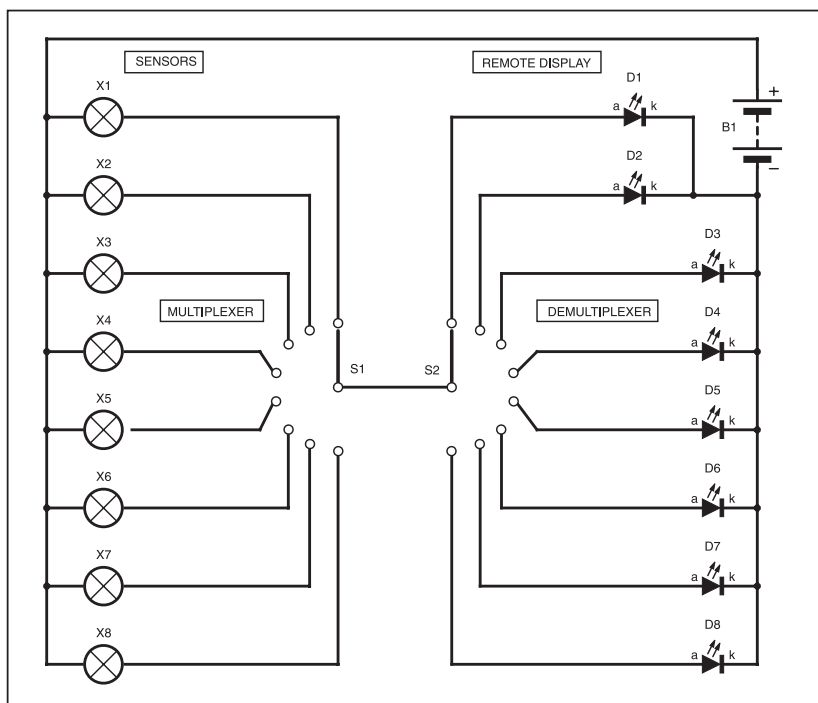

Fig. 5.4. Using two rotary switches to multiplex and demultiplex eight sensors and eight l.e.d.s.
Now consider the system in Fig. 5.4. Notice how the number of wires between the well and the house has been reduced to just two (though we will see later that in a practical system four more are needed).
In Fig. 5.4 we use two rotary switches, S1 which *multiplexes* the information onto one wire, and S2 which *demultiplexes* it from one wire to eight. If both switches are positioned as shown, sensor X1 is connected to l.e.d. D1. If both switches are moved one step then X2 will connect with D2.
The circuit in Fig. 5.4 illustrates an example of *time division multiplexing*. The information from each sensor is sent sequentially (one after the other) along a single wire.
Returning to our water well example for a moment, if we wanted to ensure that the electronic switches in Fig.5.4 were always in step, we would need three control lines, A, B and C. The system also requires positive and 0V power lines. So the total number of wires running between the two ends is six.
You will no doubt think that this multiplexed system seems less productive than indicated in Fig.5.4. But add just one more control line (D) and the number of ways increases to 16. Add one more (E) and the number of ways doubles to 32, and so on.